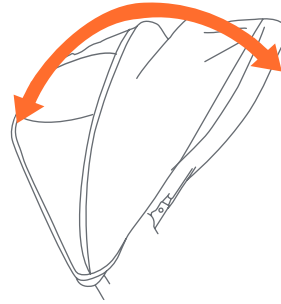

Fig. 8
- 8)** • To open the canopy: push forward on the front edge of the canopy while holding the rear of canopy in place (Fig. 8).
- To fold the canopy: pull backwards on the front edge (Fig. 8).